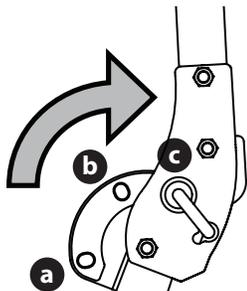

Figure 5
- When both locking pins are secured in the ADJUSTMENT position, slowly lift and rotate the upper ROPS from the TRANSPORT (a) position, past the TRANSPORT WITH BAGGER (b) position and into the OPERATION (c) position (Figure 5).